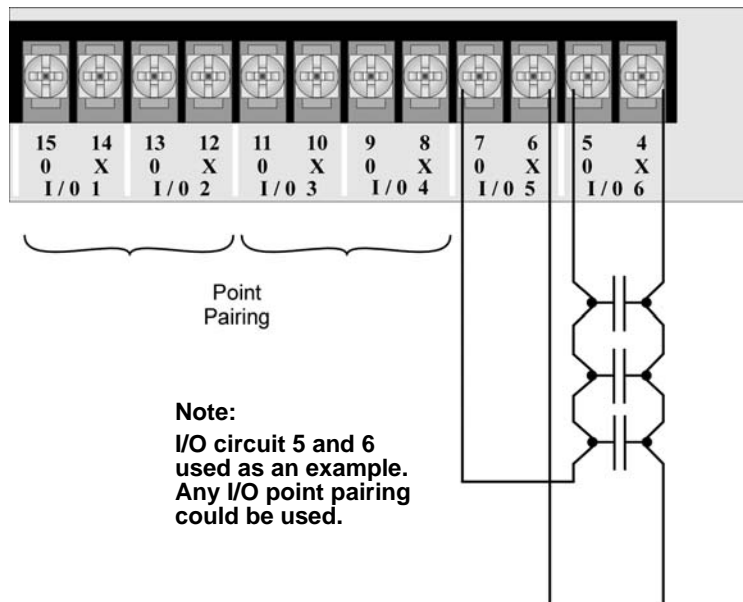

Figure 3-11 Class A initiating Switches
- Wire the Class A switch as shown in Figure 3-11.
Note: In programming any point that uses multiple I/O circuits are always referred to as the lowest I/O circuit number used. For example, Figure 3-11 uses both I/O circuit 5 and 6, so in programming it would be referred to as point 5.